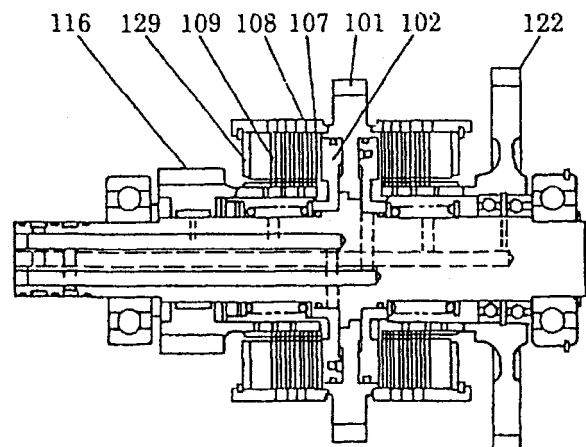

Fig. 6 Hydraulic clutch shaft
(2) Hydraulic clutch (See Figure 6.)